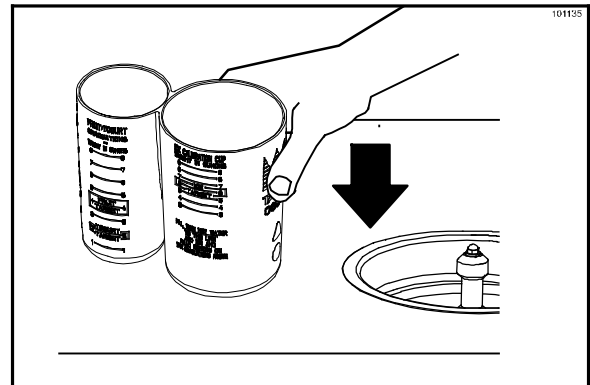

Figure 135
10. Tap the cylinder a couple of times so the ice will settle. Do not push the ice down into the cylinder. (See Figure 135.)